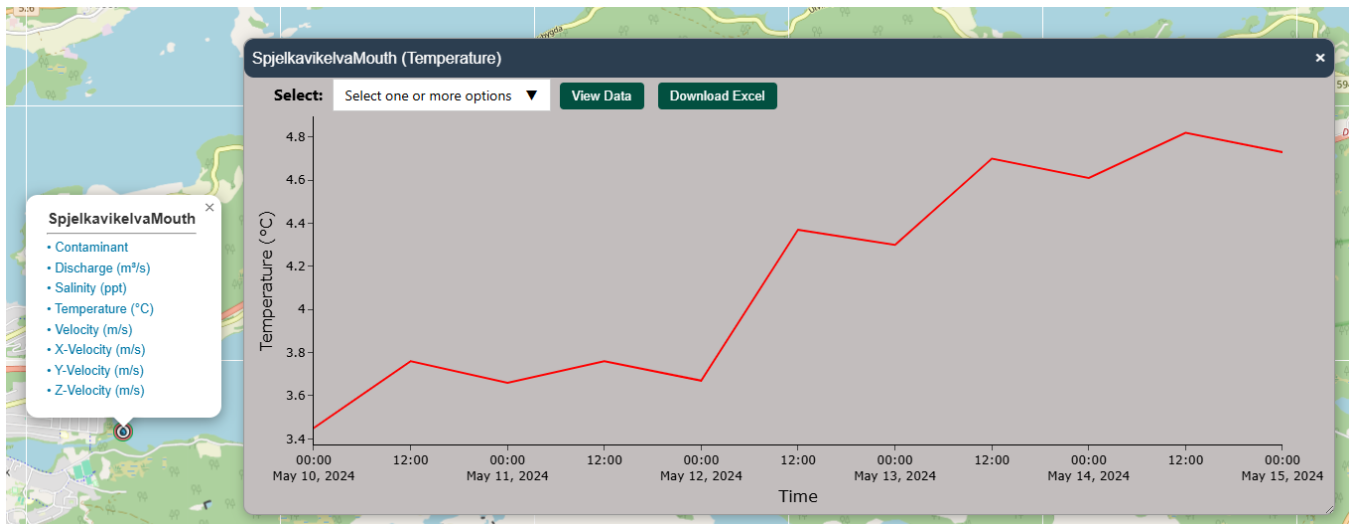

Figure 5.4. In-situ observations
- Once option for “*Hydrodynamic*” is selected, user can click on the specific point and select more detailed information to see (Figure 5.4).